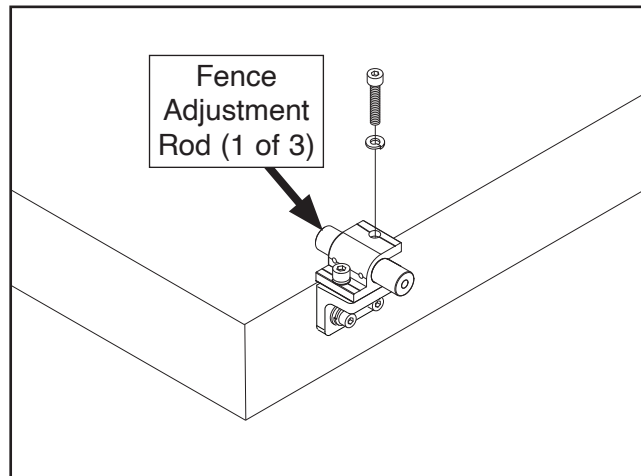

**Figure 14.** Securing fence adjustment rod in fence rod mount.
10. Place (1) fence adjustment rod in each fence rod mount, as shown in **Figure 14**, then secure with (3) M8-1.25 x 40 cap screws and (3) 8mm lock washers.